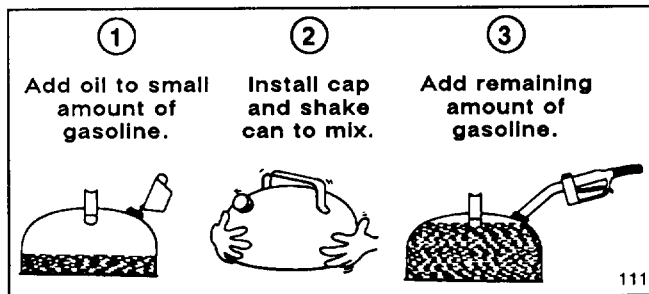

Figure 7
2. **Mixing Gasoline and Oil (Fig. 7)**—Pour correct amount of two-cycle oil into an approved gasoline container and add a half gallon of gasoline. Install cap on gasoline container and shake the container to mix oil and gas thoroughly. Remove cap and add remaining amount of gasoline.